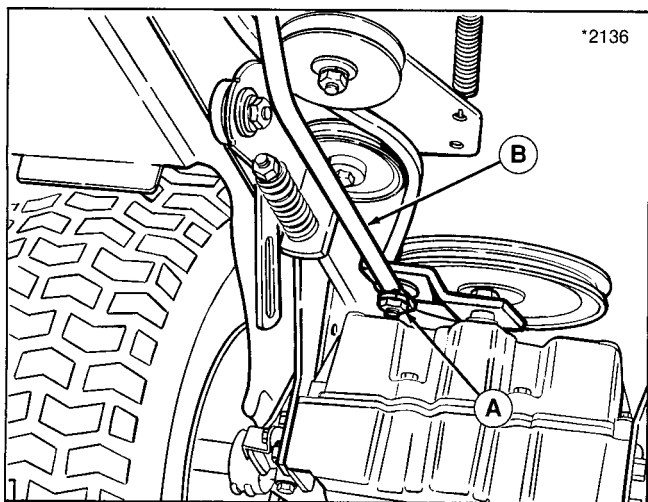

Figure 26.
2. Loosen the nut (A, figure 26) so that transmission control rod (B) is free to move.